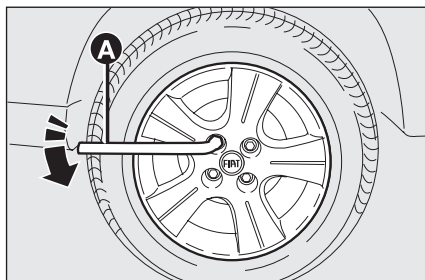

fig. 5
- ☐ loosen the bolts on the wheel to be replaced with the wrench provided **A-fig. 5**;